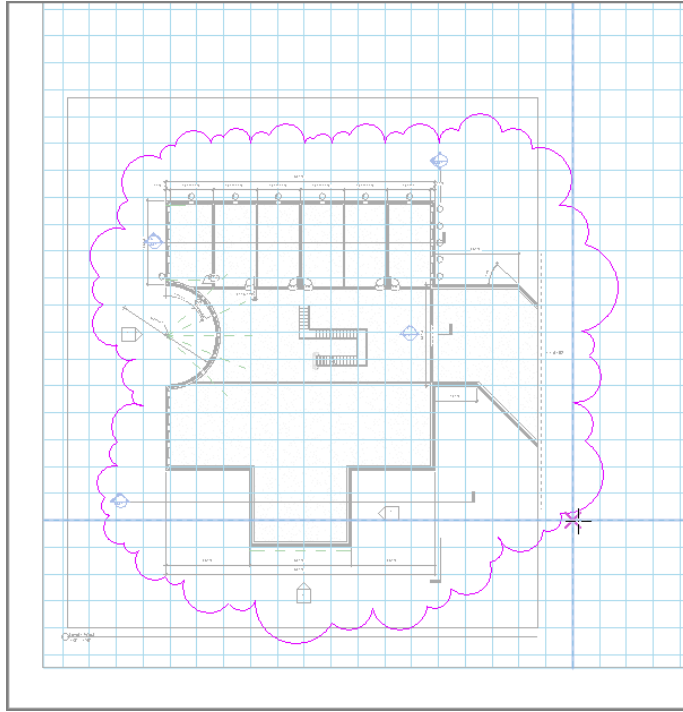

FIGURE 14.16: Placing a revision cloud
3. Place a revision cloud around the plan, as shown in Figure 14.16.